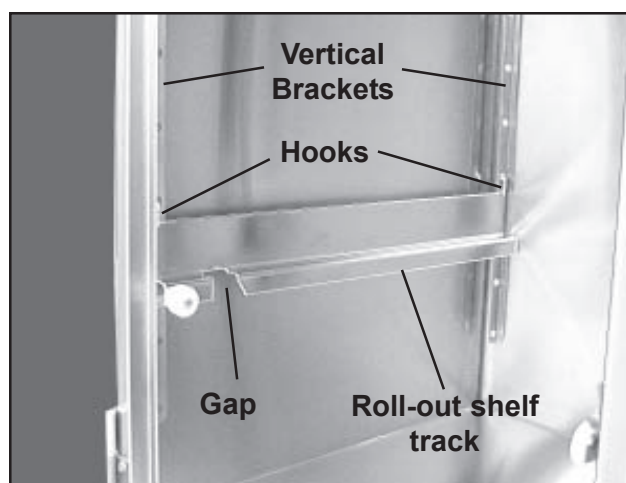

Figure 20. Roll-out Shelf Track and Vertical Brackets
2. Lift up on the roll-out shelf track and unhook it from the front and rear vertical brackets (Figure 20). Do this for both roll-out shelf tracks.